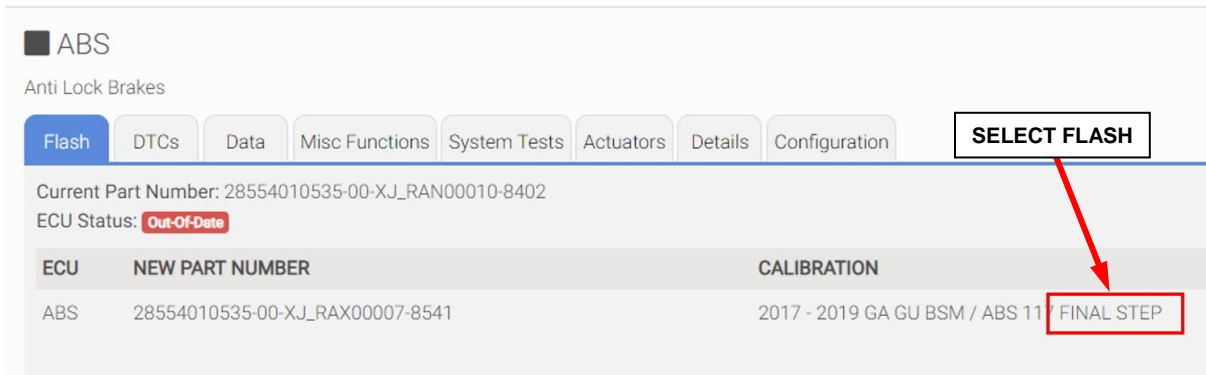

Figure 22 – First Flash ABS / BSM - “FINAL STEP”
11. From the ABS tab, select the ABS flash “**FINAL STEP**” and proceed with the reprogramming procedure (Figure 22).